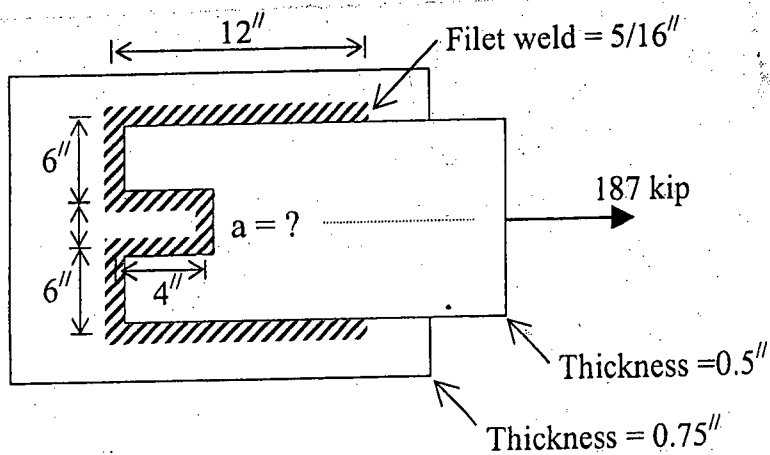

Fig. 5
(c) Two plates are lap connected as shown in Fig. 5. Use E 60XX electrode. Design additional transverse weld "a" at the side of groove. Use A36 steel. (10)